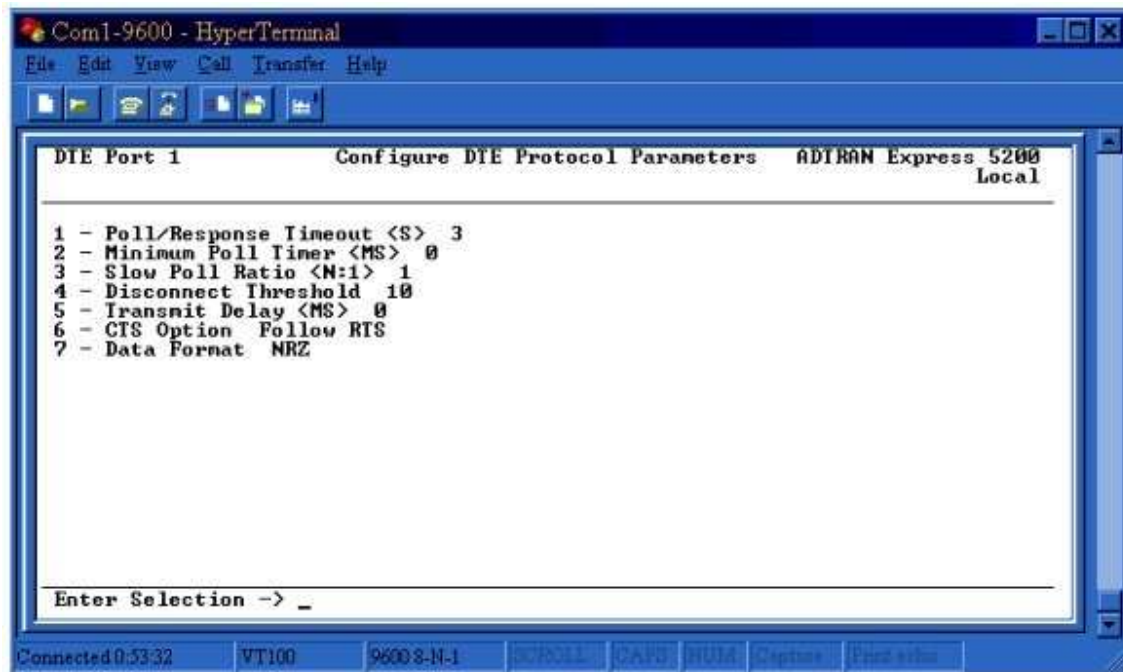

Figure 11
9. Press <Esc> to return to the previous menu. Enter 3 and press <enter> to select **Protocol Options**. Select the appropriate **Data Format**, NRZ or NRZI, according to how your AS/400 is configured. For the example, we will be using *NRZ*. The remaining options should be left as default. See Figure 11.